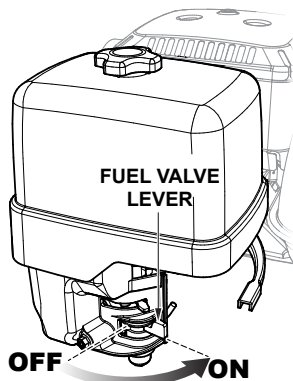

Figure 14. Engine Fuel Valve Lever (ON Position)
2. Place the engine fuel valve lever (Figure 14) in the **“ON”** position.